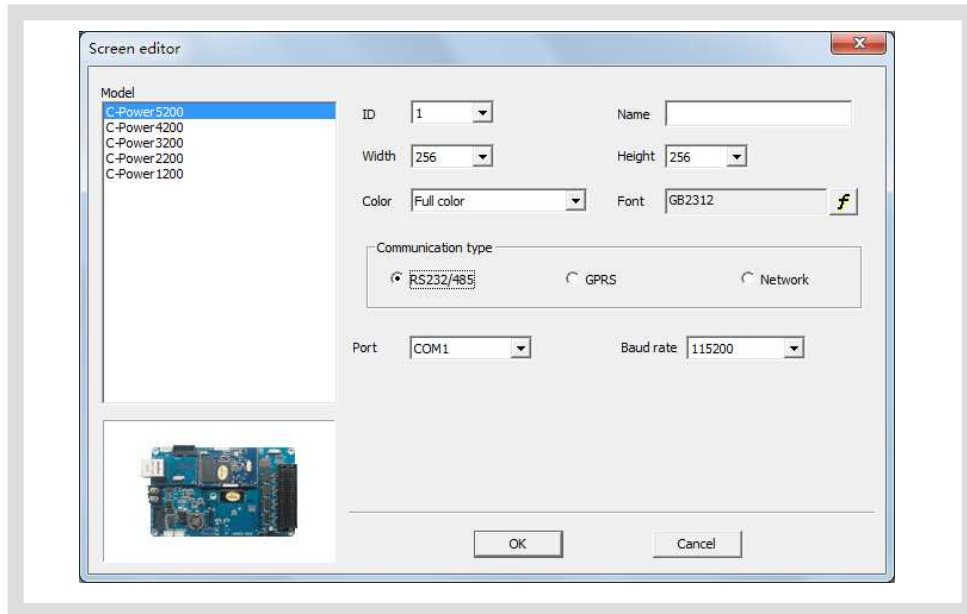
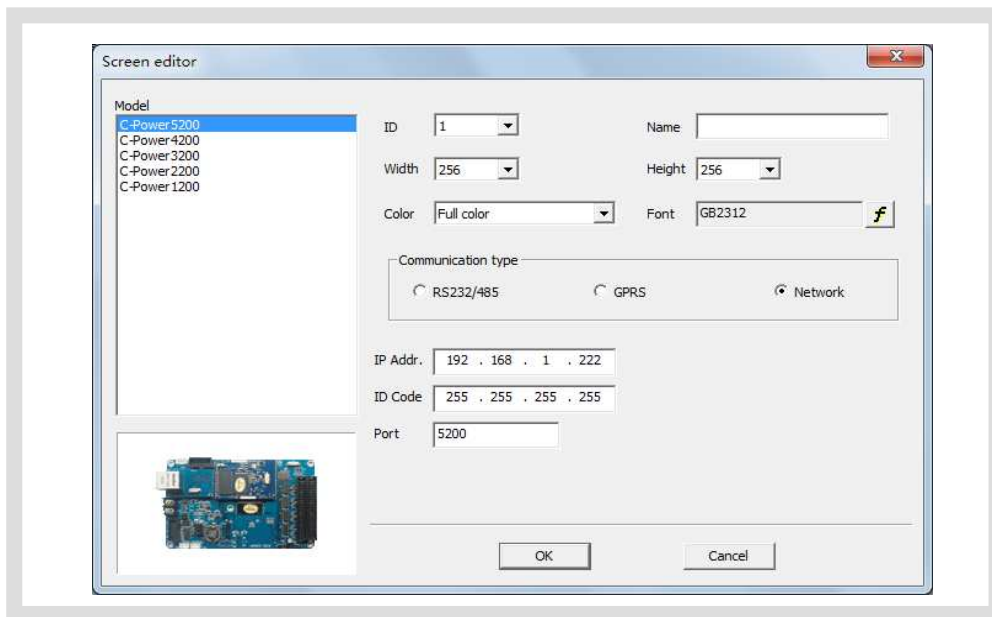

Figure5 “Screen editor” dialog box under COM port mode
Figure6 “Screen editor” dialog box under network mode
- 4) After click “New” or “Edit” button, enter the password1 in the authority confirmation box, and the box of “Screen editor” pops up, as shown in Figure5 and Figure6.
- B. Name: user can name the LED screen freely. The name will appear at the edit field. If no name input, the system will automatically display “C-Power 5200 (ID)”